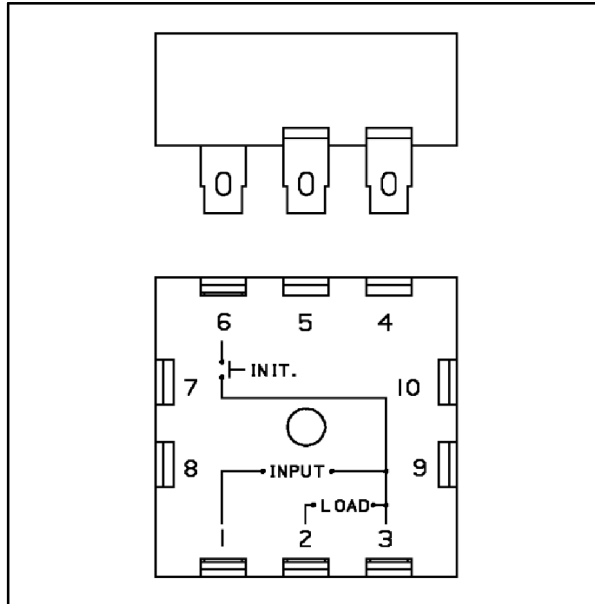
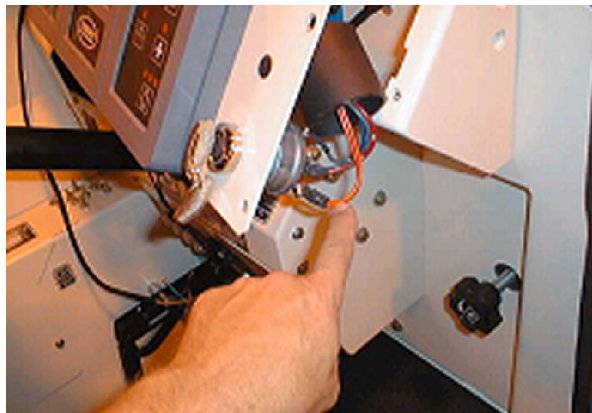
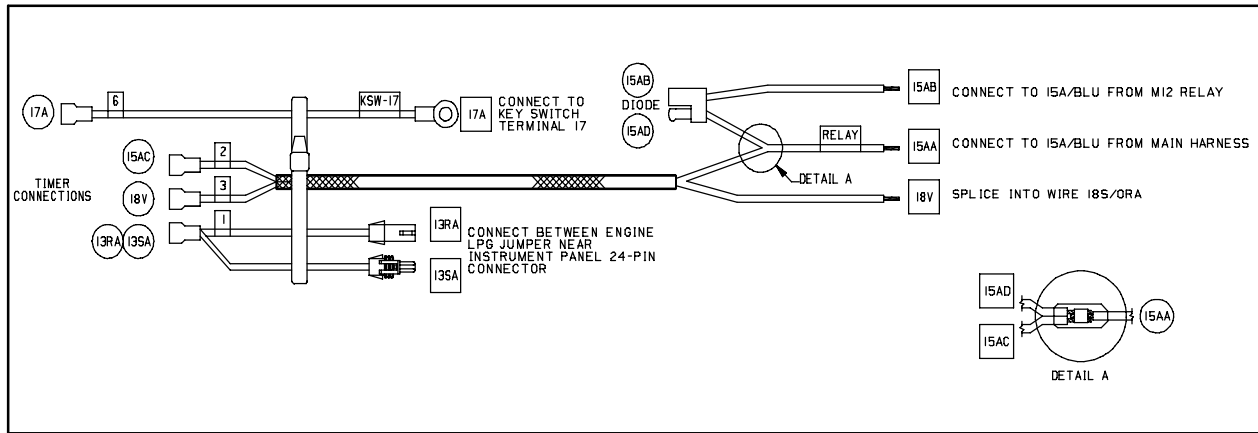

FIG. 2
FIG. 3
FIG. 7
3. Connect the wires labeled 13RA and 13SA on the timer start harness (1) to the connectors located behind the instrument control panel. Refer to Fig. 6 and Fig. 7.
4. Use a hex screw (4), hex nut (5), and washer (6) to mount the timer (2) to an existing hole in the back wall of the Instrument panel compartment. Do not overtighten the hardware since doing so could damage the timer.
5. Connect wires labeled 1, 2, 3, and 6 on the timer start harness (1) to the appropriate terminals on the timer (2). Refer to Fig. 2, Fig. 6, and Fig. 7.
6. Connect the wire labeled KSW-17 on the timer start harness (1) to terminal 17 on the key switch containing wire 17/ORA from the main harness. Refer to Fig. 3, Fig. 6, and Fig. 7.
9. Use the crimp splices and the heat shrink from the timer start harness (1) kit to splice the wires labeled 15AB, 15AA, and 18V into the main harness wires of relay 12. Refer to Fig. 6 and Fig. 7.